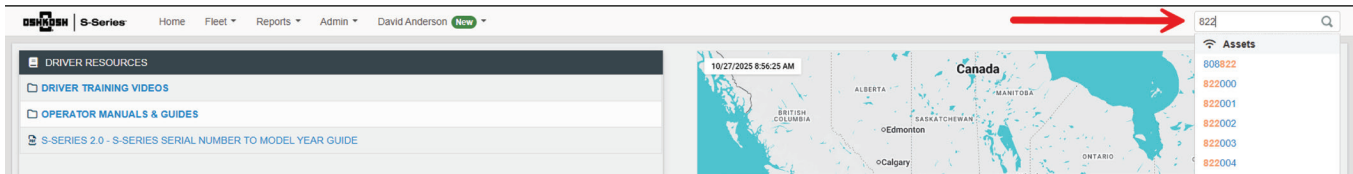

Figure 8
29. Enter truck serial number (last six digits of truck VIN) in ClearSky search window. See Figure 8.
30. Make sure the truck's serial number appears in the search results Assets window and select the truck from the search results. See Figure 8.